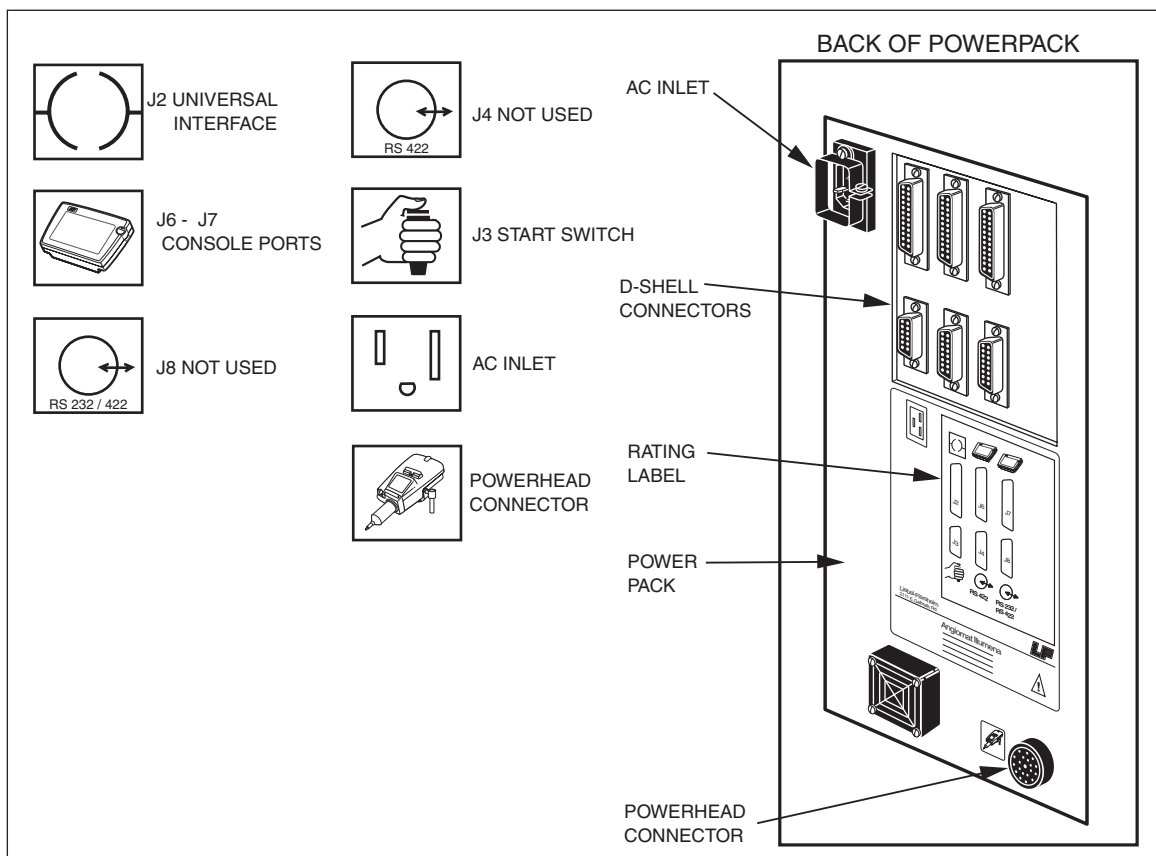

Figure 2-3-1 System Connector Location and Icon
The system components of the Angiomat Illumena Contrast Delivery System all connect at the back of the powerpack. The diagram in Figure 2-3-1 shows the location of the various connections. The D-shell connectors use icons to identify the connector function and the mating cable connector shares the same icon. Refer to this drawing for all cable connections.
4. Route the console cable through the notch on the column assembly as shown below and connect it to the console connector J6. See Figure 2-3-1 for connector location.
1. The start switches are installed to the back of the powerpack to the connector identified with the start switch icon shown in Figure 2-3-1. Refer to the Parts manual for available lengths and configurations.
2. The power cord assembly installs to the back of the powerpack to the connector identified on the injectors rating plate shown in Figure 2-3-1. Once inserted, tighten the cable clamp. See section 1.5 for main voltage requirements.